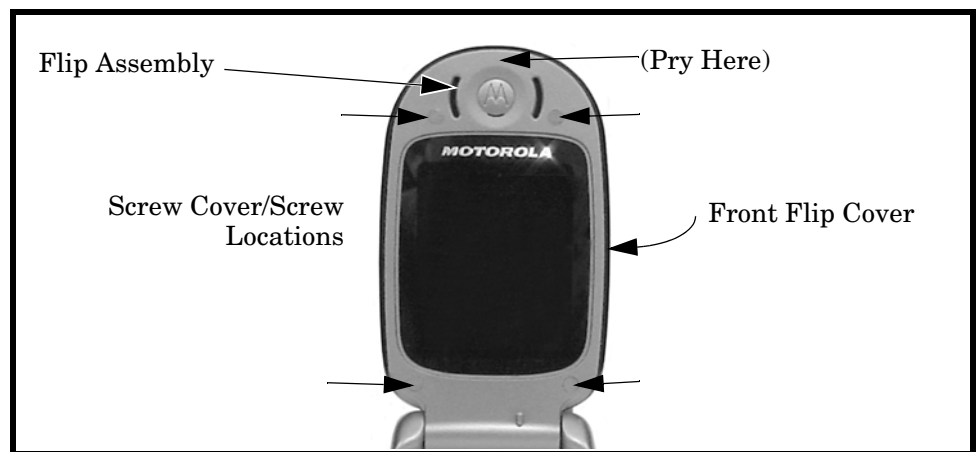

Figure 13. Removing the Front Flip Cover
3. Using a Torx driver with a T-6 bit, remove the 4 screws at each corner of the flip. Retain the screws for reassembly. See Figure 13.